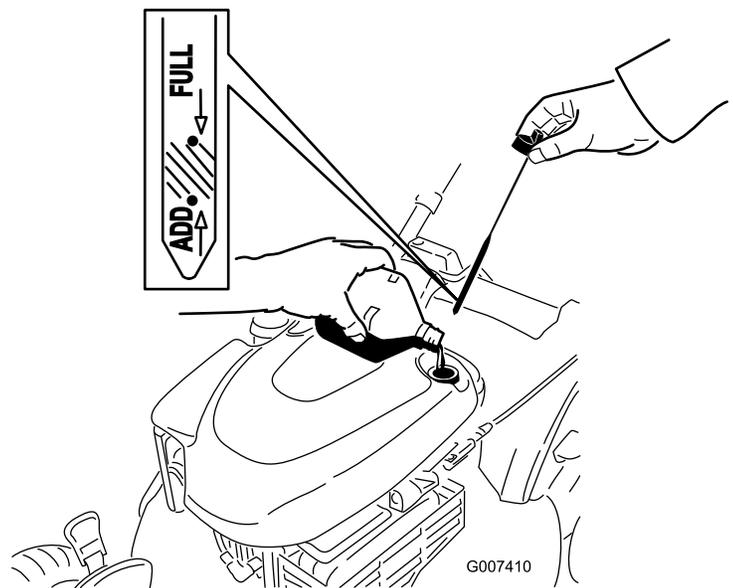

Figure 43
- Remove the dipstick and read the oil level; refer to Figure 43.